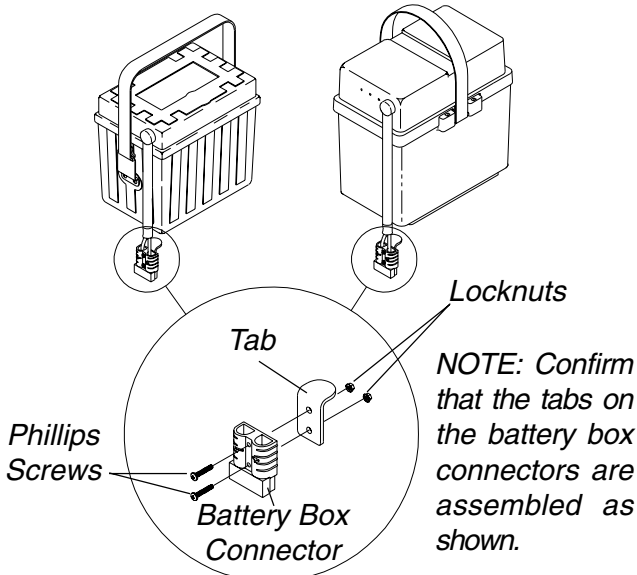

FIGURE 6 - BATTERY BOX CONNECTOR TABS
ENGAGING/DISENGAGING CLUTCHES (FIGURES 6 AND 7)
The tabs on the battery box connectors **MUST** be assembled as shown in **FIGURE 6**. Otherwise the connectors will not engage completely and clutch handles could disengage connectors.
1. Confirm that the tabs on the battery box connectors are assembled as shown in **FIGURE 6**.
*NOTE: If the tab on the battery box connectors is not assembled as shown in **FIGURE 6**, remove the phillips screws and locknuts to assemble tab onto the connector correctly.*